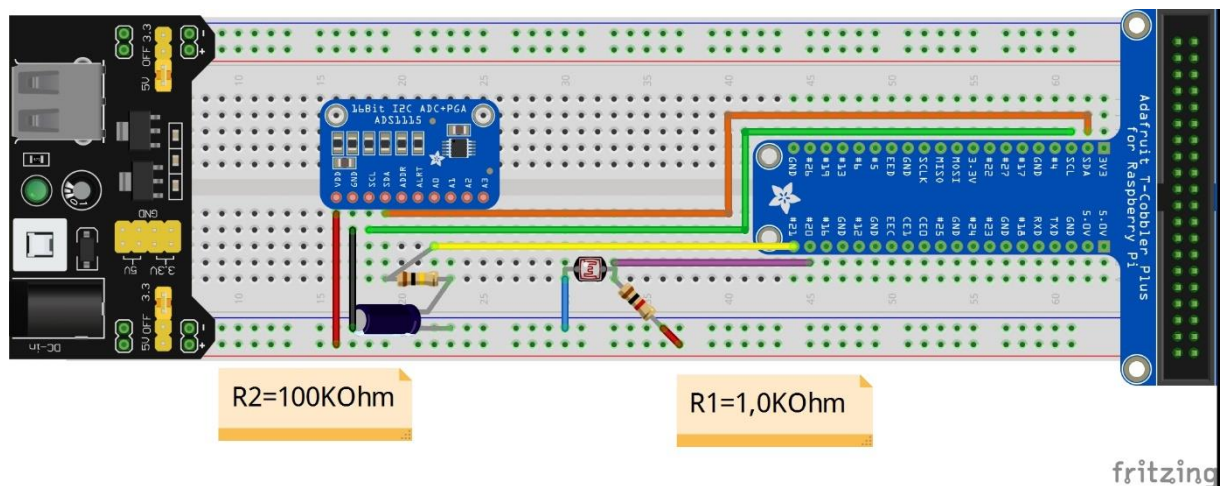

Figure 3. Fritzing-Diagram of the LDR Operated Switch to analyse the charging and discharging of an electrolytic capacitor.
- A step voltage pulse is generated at two pins of the Raspberry Pi by a light-dependent resistor (LDR) operated switch. The Fritzing-Diagram is presented in the Figure 3. Through the covering/uncovering of the LDR, the input signal at the GPIO-Pin-IN of the Raspberry Pi changes back and forth from a constant positive value to zero volts.
- After constructing the circuit shown in Figure 3. one can proceed to configure the experiment and the analog-to-digital Converter ADS1115 with the PhyPiDAQ-Software.